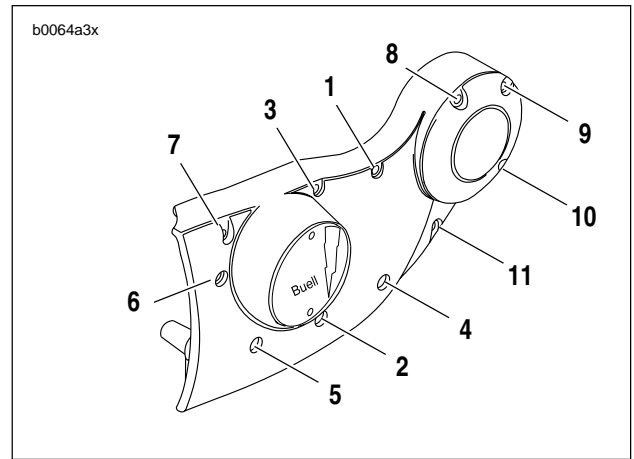

Figure 3-70. Gearcase Cover Mounting Screw Torque Sequence
5. Install gearcase cover over all gears and onto right crankcase half (10). Secure cover to crankcase half with 11 socket head screws. Tighten screws evenly to 80-110 **in-lbs** (9-12 Nm). Use torque sequence shown in Figure 3-70.